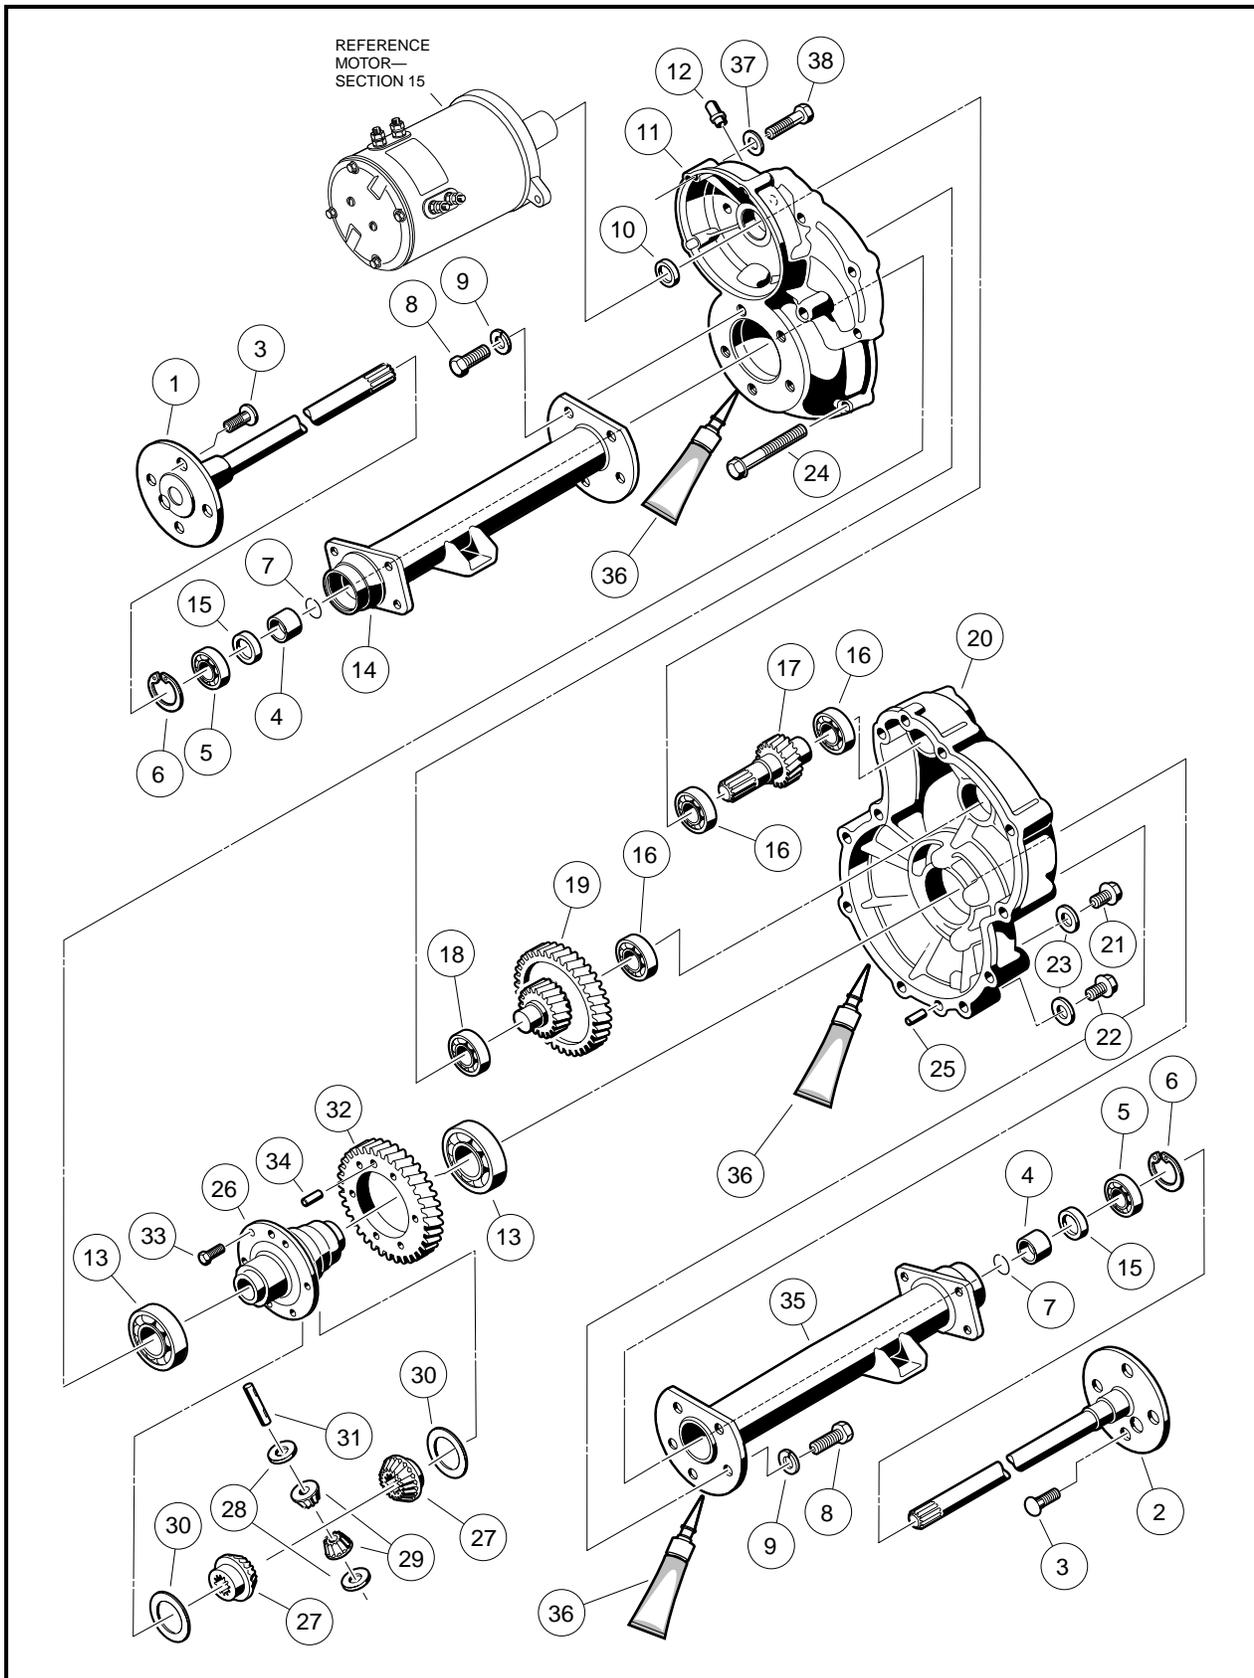
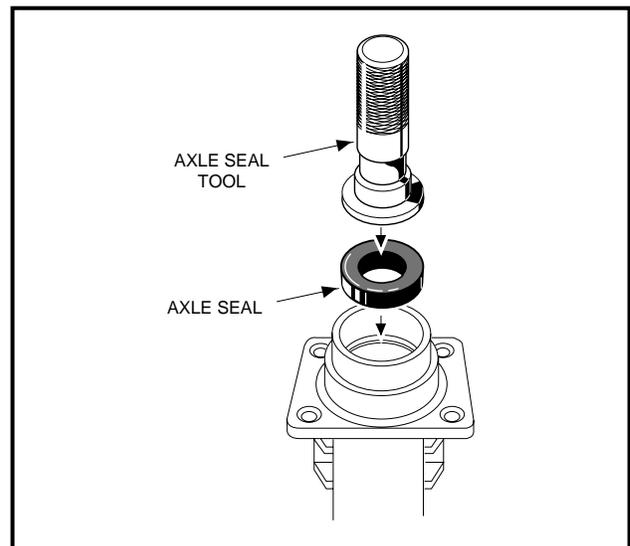
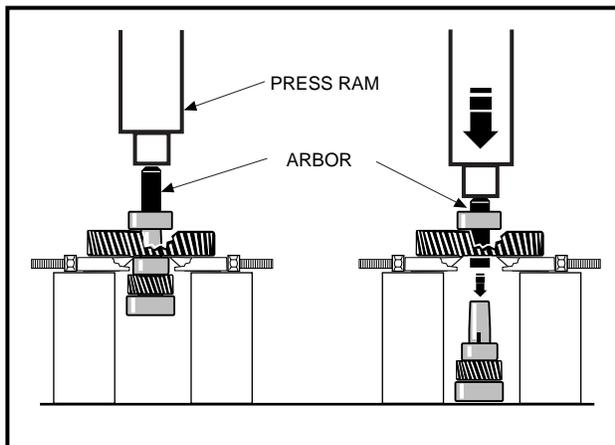

Figure 16-4 Transaxle - Type G
Figure 16-7 Axle Seal Tool
Figure 16-15 Intermediate Gear Assembly
- DO NOT REMOVE THE AXLE BEARING FROM A TYPE G TRANSAXLE. IF THE BEARING IS WORN, THE ENTIRE AXLE SHAFT ASSEMBLY (1 OR 2) MUST BE REPLACED (FIGURE 16-4, PAGE 16-4).
1. Clean the bearing and seal seats in the axle tube (16 or 40) (**Figure 16-3, Page 16-3**) or (14 or 35) (**Figure 16-4, Page 16-4**).
2. Place a new seal (17) (**Figure 16-3**) or (15) (**Figure 16-4**) in the axle tube with the seal lip facing away from the bearing. Use an axle seal tool (Club Car Part No. 1014162) and mallet to tap it in until it seats firmly in position (**Figure 16-7, Page 16-5**). A hydraulic press may also be used with the axle seal tool.
- **TYPE G TRANSAXLES:** IF RETAINING RING (6) MUST BE REPLACED, THE ENTIRE AXLE SHAFT ASSEMBLY (1 OR 2) MUST BE REPLACED (**FIGURE 16-4, PAGE 16-4**).
1. To detach the axle tubes (16 and 40) (**Figure 16-3, Page 16-3**) or (14 and 35) (**Figure 16-4, Page 16-4**) from the transaxle housing, remove the bolts and lock washers (8 and 9) (**Figure 16-3 or 16-4**). See following **NOTE**.
2. Remove 10 bolts (26) (**Figure 16-3, Page 16-3**) or 11 bolts, (24) (**Figure 16-4, Page 16-4**) holding housing together.
4. Remove input pinion gear by pulling gear out while rocking intermediate gear assembly. Lift intermediate gear assembly and differential gear case unit out simultaneously (**Figure 16-15**).
5. Use a bearing puller or arbor press to remove bearings (18) (**Figure 16-3, Page 16-3**) or (16) (**Figure 16-4, Page 16-4**) from the input pinion gear. If the oil seal (10) is damaged, replace it (**Figures 16-3 or 16-4, Pages 16-3 or 16-4**). See following **CAUTION**.
6. To disassemble the intermediate gear assembly, press off together bearing (18) (Figure 16-3, Page 16-3) or (16) (Figure 16-4, Page 16-4) and gear (23) (Figure 16-3, Page 16-3) or (19) (Figure 16-4, Page 16-4). See also Figure 16-15.
8. Press the bearing (20) (Figure 16-3, Page 16-3) or (18) (Figure 16-4, Page 16-4) off the intermediate gear assembly.
- 9.2. Remove the eight hex bolts (28) (Figure 16-3, Page 16-3) or four hex bolts (33) (Figure 16-4, Page 16-4) that secure the ring gear to the differential case.